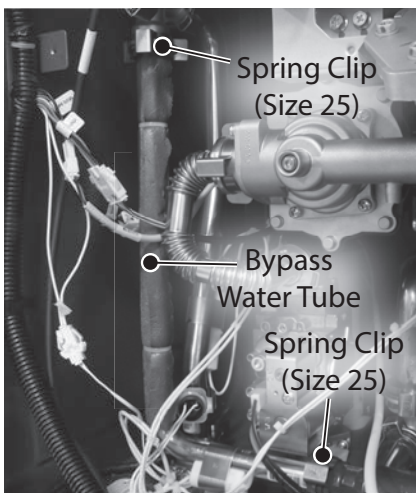

Figure 206 - Remove spring clips from bypass water tube
- 16** Locate the bypass water tube connected to the bypass valve. Locate and remove the two (2) spring clips (size 25) securing the tube to the bypass valve and the mixing tee as shown in Figure 206.